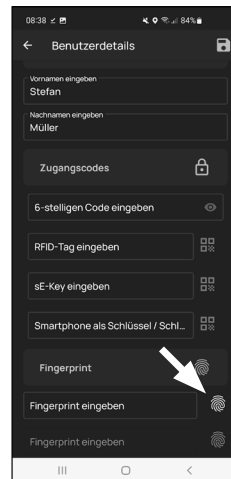

Fig. 5
- 7 This section allows you to register a finger as an opening media. Tap on the fingerprint symbol to the right of the "Enter fingerprint" field ( Fig. 5).